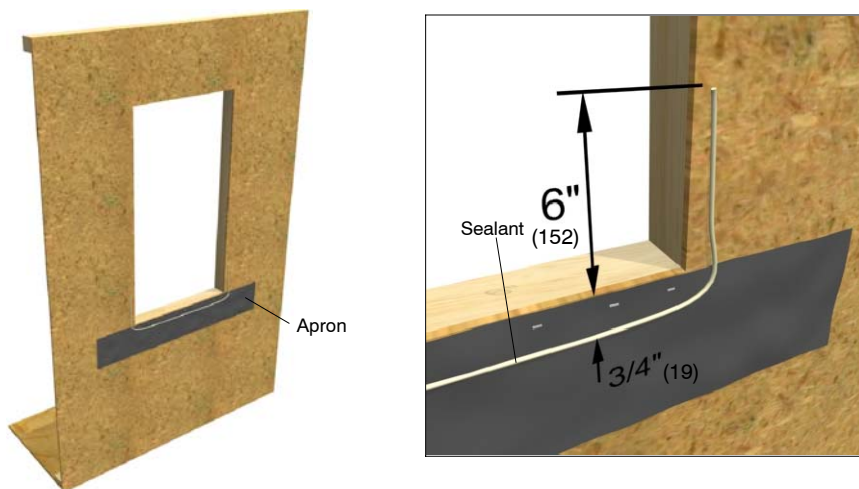

Figure 14: Install an apron and apply sealant
1. Install an “apron” of Grade D building paper or other weather barrier material under the sill, extending beyond the sides of the rough opening by 10”-12” (254-305). Attach the apron at the sill of the rough opening (RO) only. Apply a bead of sealant around the bottom of the opening as shown in figure 14.